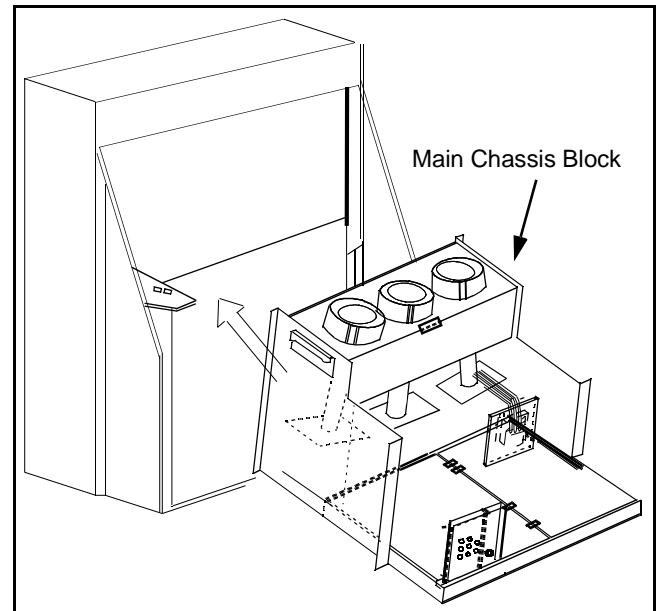

Figure 15. Chassis removal
Main chassis block (figure 15)
1. Remove the main chassis block from the cabinet. See figure 15.